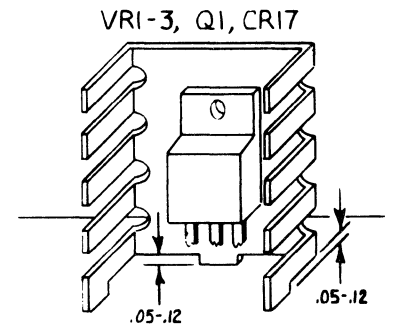

FIGURE 4
3. ALL HEATSINKS ARE MOUNTED AS SHOWN IN FIGURE 4.